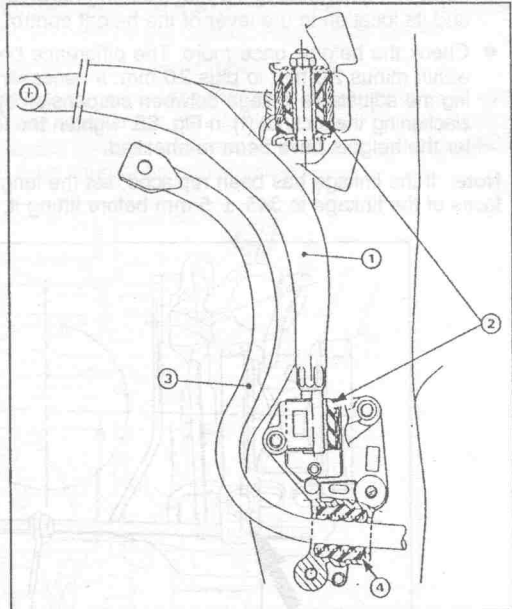

Fig. 6.11. — View of the front suspension arm and stabiliser bar attachments see from below.
The L.H. and R.H. suspension arms are mounted in flexible rubber bushes on the sub-frame. The front of each arm is secured by a single bolt and nut; the rear of the suspension arms are secured by a bearing cap, secured by two bolts. The outer end of the arms is connected to the steering knuckle (swivel joint) by means of a ball joint. Fig. 6.11 shows the attachment of a suspension arm together with the stabiliser bar (3) and the stabiliser bar bearing (4). The removal and installation of a suspension arm presents no problems, but a puller for the ball joint must be available.
- Remove the bolt securing the bearings (4) in Fig. 6.11 on the sub-frame and remove the parts of the anti-roll bar.